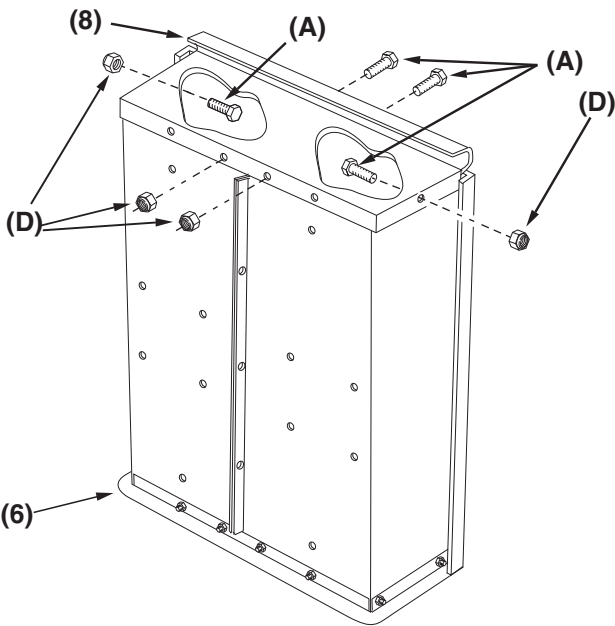

Figure 3
**STEP 3 (SEE FIGURE 3):** Position the cart bed with the rear of the cart facing towards the ground. Attach the front panel (8) using four 1/4" x 5/8" hex bolts (A) and 1/4" nylock nuts (D).